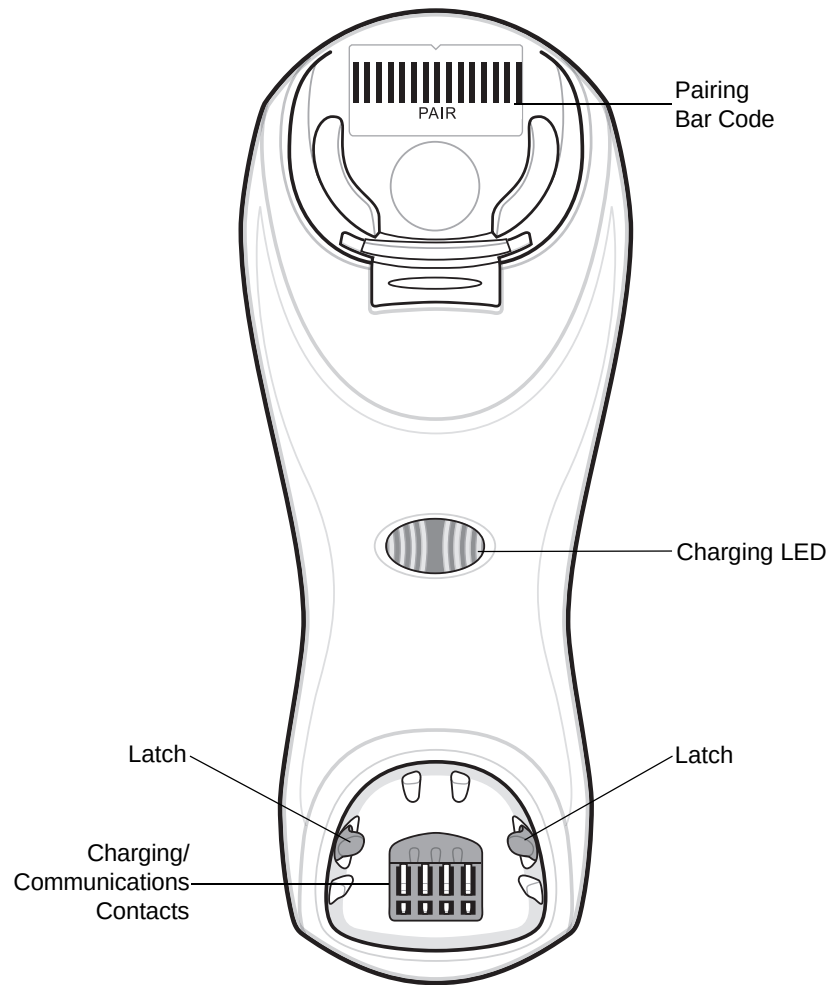

Figure 1-3 *Cradle Front View*
2. Ensure the convertible mount hook on the front of the cradle is inserted with the hook facing up. If not, remove and reverse the hook so that it is in position to secure the scanner in place. (See Figure 1-3 on page 1-4 for the location of the convertible mount hook.)